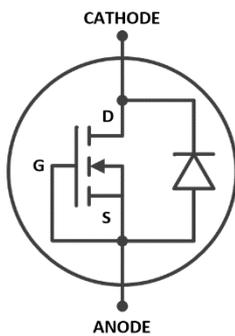

Figure 3. Simplistic internal arrangement
Super Barrier Rectifier (SBR[®]) is a proprietary and patented Diodes Incorporated technology that utilizes a Metal Oxide Semiconductor (MOS) manufacturing process to create a superior alternative to the Schottky diode. A MOSFET structure with connected gate (G) and source (S) provide the device’s anode terminal and the drain (D) becomes the cathode terminal, shown in Figure 3.